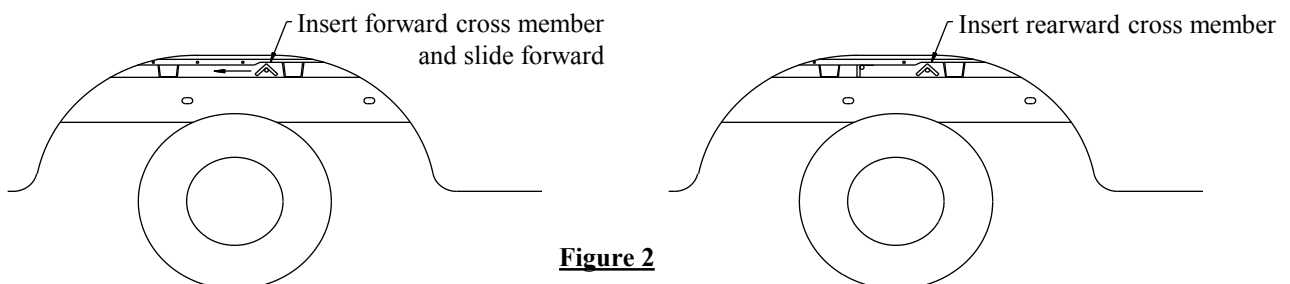

Figure 2
1. Slide the forward and rearward cross members between the frame rail and the bed of the vehicle as shown in Figure 2. The forward cross member has (2) additional hole, see figure 1.
4. **Center spacer** - install 5/8-11 x 1.25 bolts, lock washer and nuts (item 7,8, and 10) in frame bracket as shown. When installed on truck, the head of this bolt will be next to the frame and act like a spacer between frame and bracket. Caution, this will now make the brackets right-hand and left-hand.
6. **Frame mounting** – One side at a time, slide block (item 3) in place and use the pull wires to insert the 1/2" carriage bolt and blocks into the mounting bracket location through the large slot on the inside of the frame. Take special note on orientation of the round block of the front frame mount. There is a hole on the inside of the frame that will allow you to check for proper placement of the block. Loosely install the 1/2" conical tooth lock washer and hex nuts to the frame bracket.